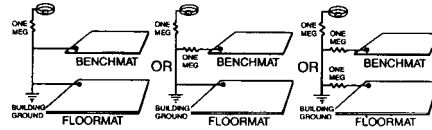

Figure 13. Proper wiring diagrams for conductive and dissipative ESD workstations.
- Your completed installation of a Charleswater Europe ESD workstation should comply with one of the electrical diagrams illustrated in Figure 13.